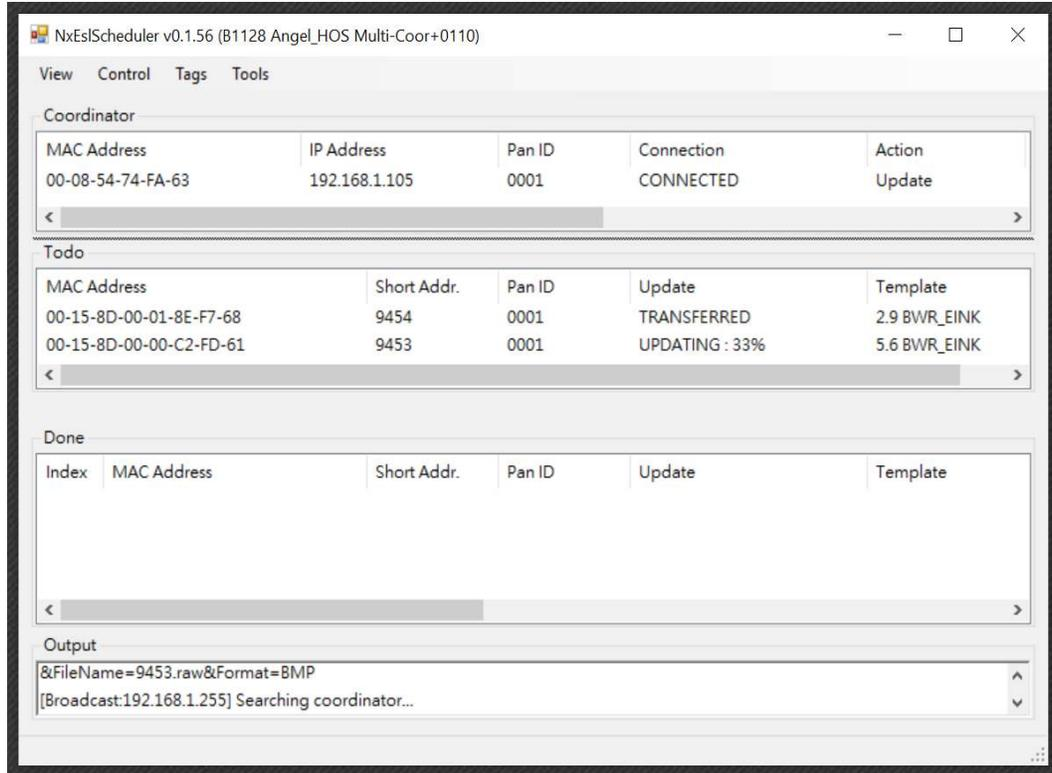

Fig. 13
2. Select the **Tools** tab; then select **Scheduler Coor.** to open the **NxESL Scheduler** dialog box. The scheduler will immediately begin communication with the coordinator and the **Todo** list will populate with e-Tag update information and current e-Tag status. See Figure 13.